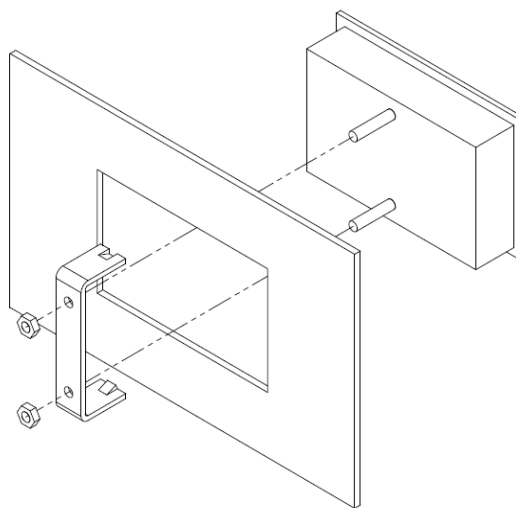

Figure 11: Mounting the display
1. Place the display in the cut-out panel (see Figure 11).